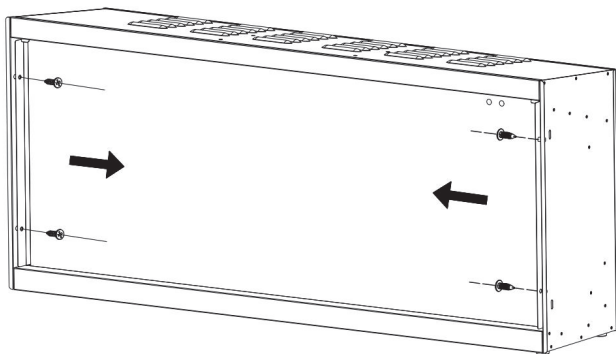

Fig. 2-1
- Take off the screws on both side.(Fig. 2-1 )